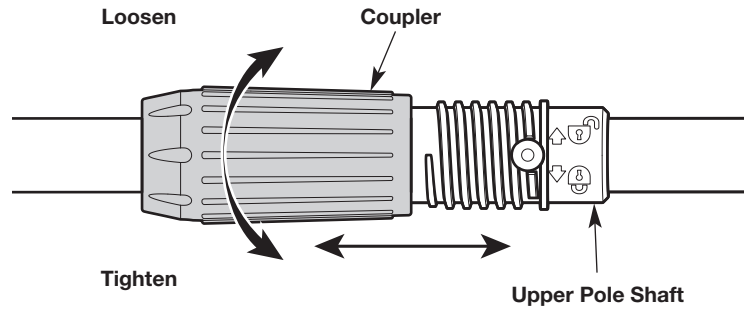

Fig. 2
3. Slide the coupler onto the upper pole shaft. Rotate the coupler clockwise to screw it securely onto the upper pole shaft (Fig. 2).
1. Rotate the coupler counterclockwise to unscrew it from the upper pole shaft (Fig. 2).